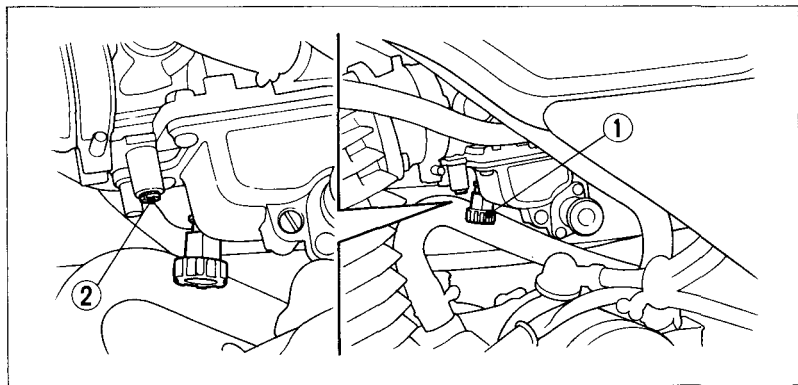

Fig. 4-9                      (1) Throttle stop screw                      (2) Pilot screw
2. Adjust idle speed by turning the throttle stop screw (Fig. 4-9).